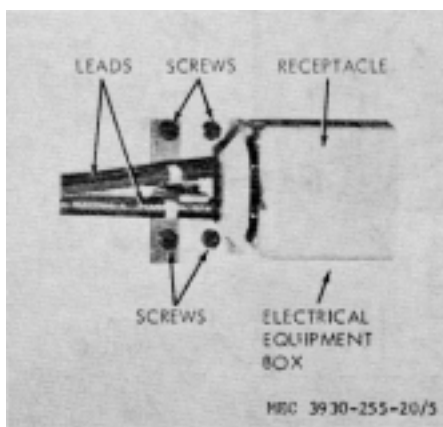

Figure 5. Battery connector receptacle.
- (1) Remove four screws shown in figure 5.
- (2) Disconnect leads shown, inside electrical equipment box, and draw them out. Remove receptacle with leads.